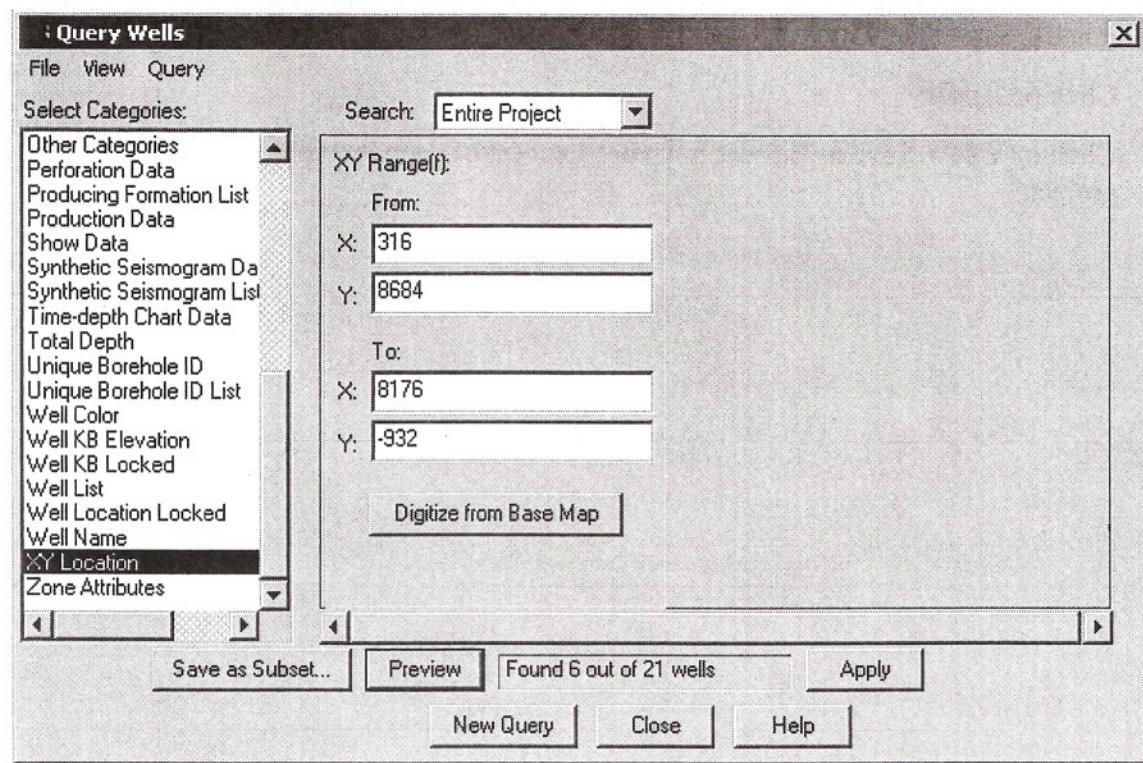

Figure 1.6 — Well Query XY Location
1. Click on **Wells > Select Wells to Display > Well Query > Select Categories > XY Location**. The Query Wells dialog box displays the X/Y Range field, highlighted in yellow (Figure 1.6).